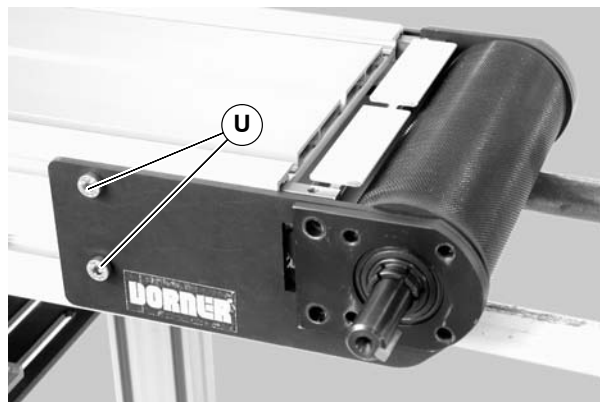

Figure 70
5. On the drive headplate, remove two (2) screws (U of Figure 70).